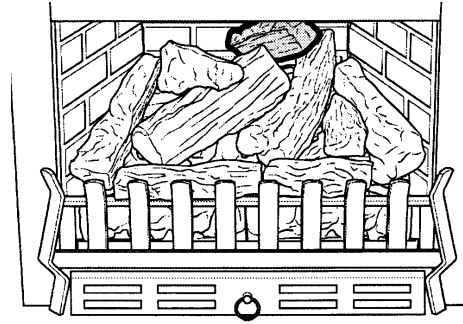

Figure 19 "H" log position
- Finally, take the 'H' log (the smallest) and position at the back of the box, such that it rests between the 'D' log and the right hand 'C' log, and is also in contact with the back wall as shown in figure 19.